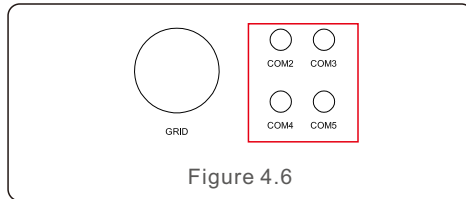

Figure 4.6
- Remove the cap nut from the waterproof cable glands labeled at the bottom of the inverter. Remove the plug from the fitting. (see Figure 4.6).